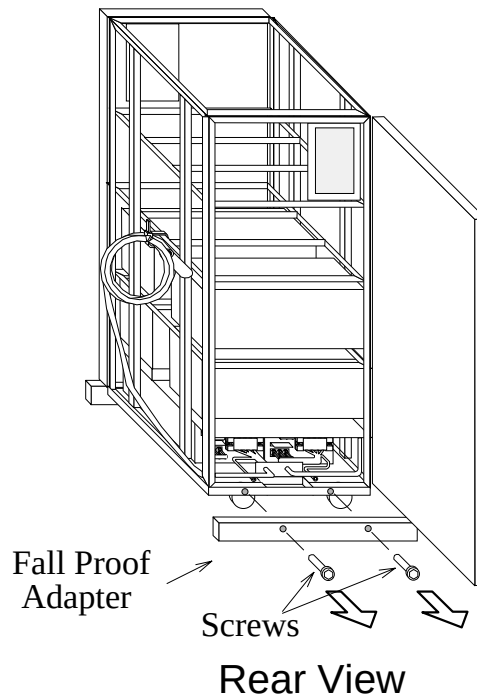

Fig. 3.24.3-2 Removal of Fall Proof Adapter
2. Remove the plate of the back side of the Disk Unit as illustrated in fig. 3.24.3-2.